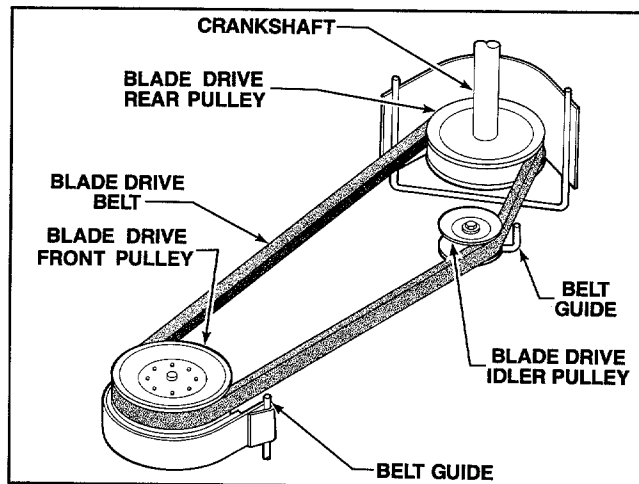

Figure 5-19: Blade drive belt/pulley system.
**B.** In the following steps, refer to Figure 5-19, which shows the blade drive belt and pulley system.